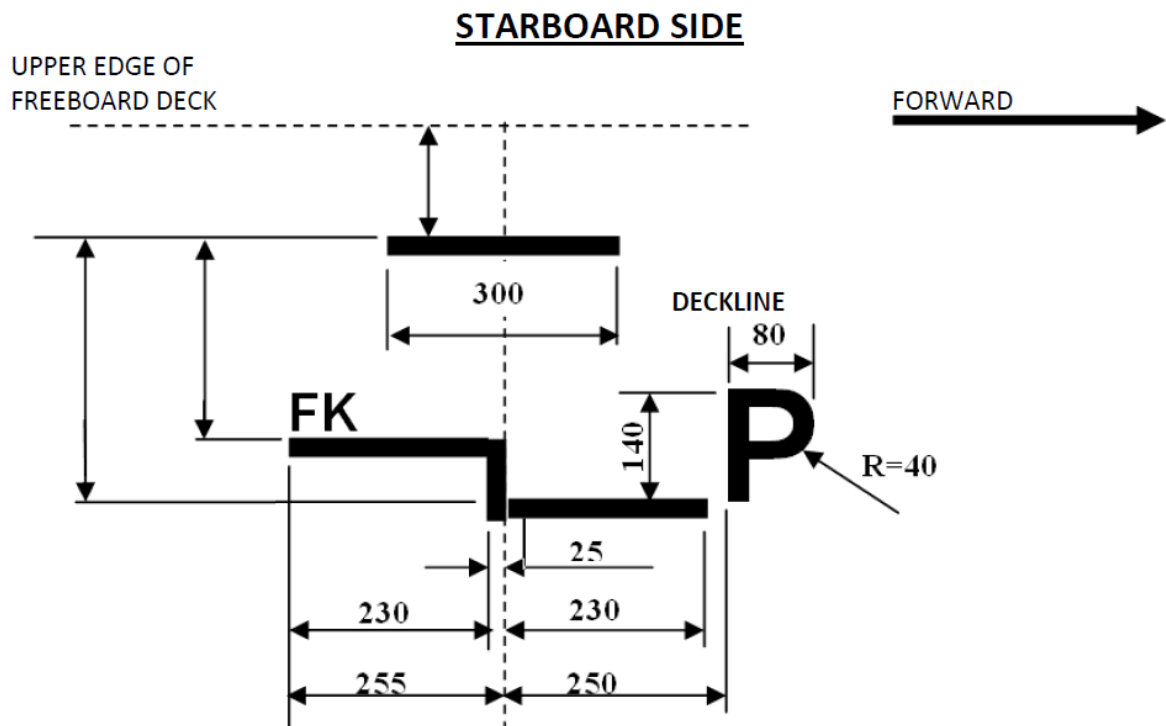

Figure 2
- All quantities as given in figure 2 and 3
2. The load line mark shall be placed directly below the deck line on each side of the vessel on a level with the summer load line. Figure 2 and 3 show the load line mark for starboard and port sides, respectively.